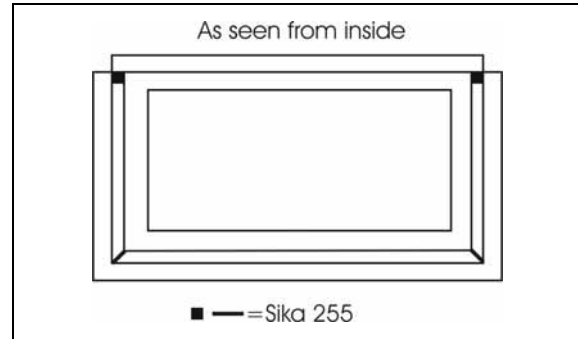

FIGURE 66: SIKA 255 APPLICATION
3. Apply Sika 255 (or 252) at the upper and lower frame corner as per FIGURE 66.